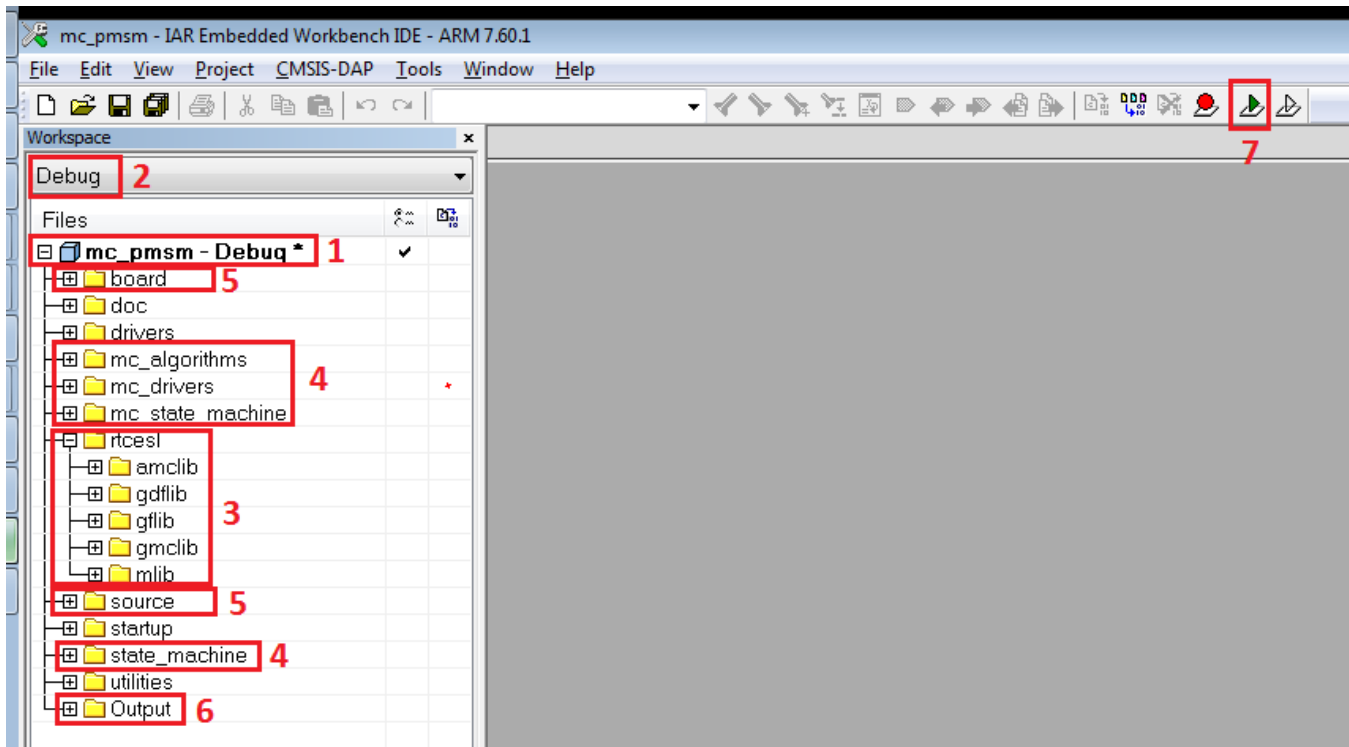

Figure 13. IAR Embedded Workbench
The project opened in IAR Embedded Workbench is fully configured and includes all source and header files required by the application, such as startup code, clock configuration, and peripherals' configuration. You can choose from two compiling conditions ("debug" or "release"), as shown in Figure 13, point 2. Each of the two conditions has its own setting:
The source code shown in Figure 13 includes these source files and folders:
- Point 6—shows the output file generated by the compiler which is ready to use with the default debugger (P&E Micro OpenSDA). This debugger is set as default for the Tower System boards, and can be changed in the project options by right-clicking Point 1, selecting “Options”, and clicking “Debugger”. Start the project debugging by clicking Point 7 (Figure 13).